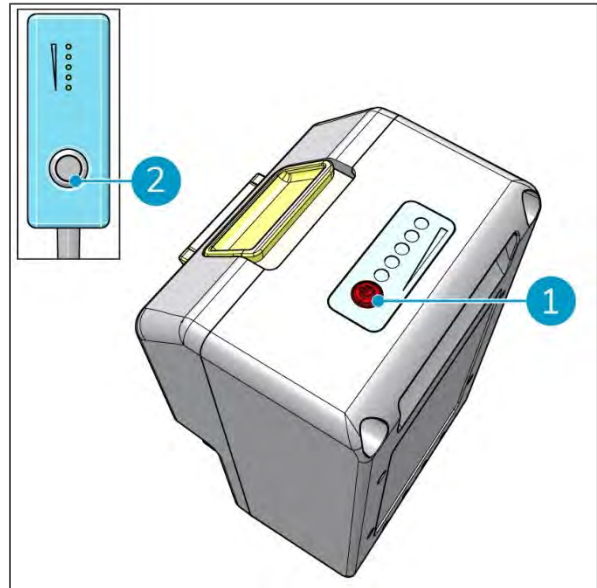

Figure 13
2. Check the batteries by pressing the red button (Figure 13, pos 1) on each individual battery. See also 2.1.
3. Press the ON/OFF switch on the remote control (Figure 13, pos 2) to turn off the i-move 2.5B®.